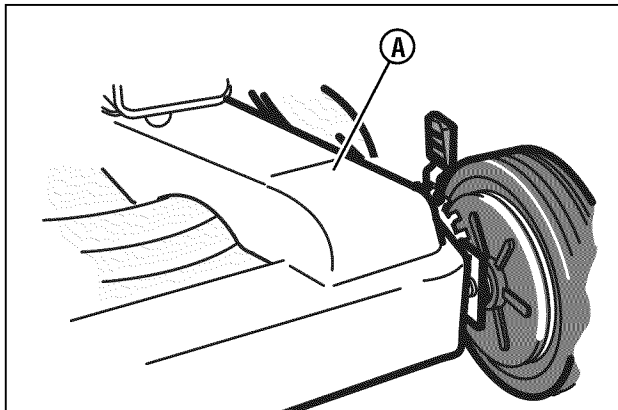

Figure 17: Removing the belt cover
1. Remove the screws that secure the belt cover (A, Figure 17). Remove the belt cover.